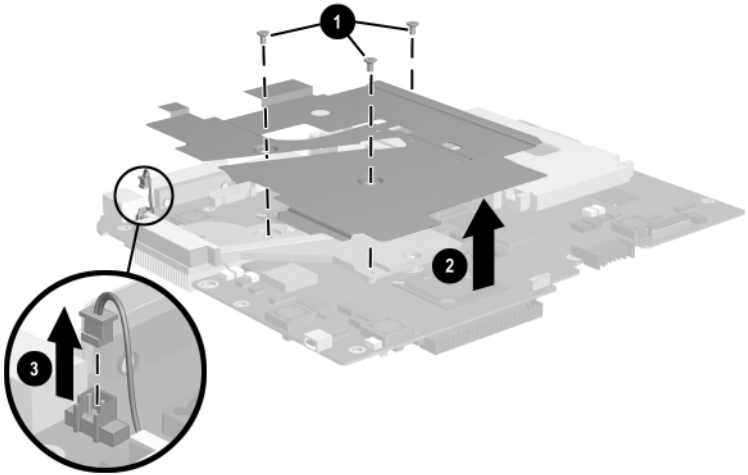

Figure 5-26. Removing the EMI Shield
4. Remove the three PM2.0 × 3.5 screws ❶ that secure the EMI shield to the base enclosure (Figure 5-26).
5. Remove the shield ❷.
6. Disconnect the fan cable ❸ from the system board.